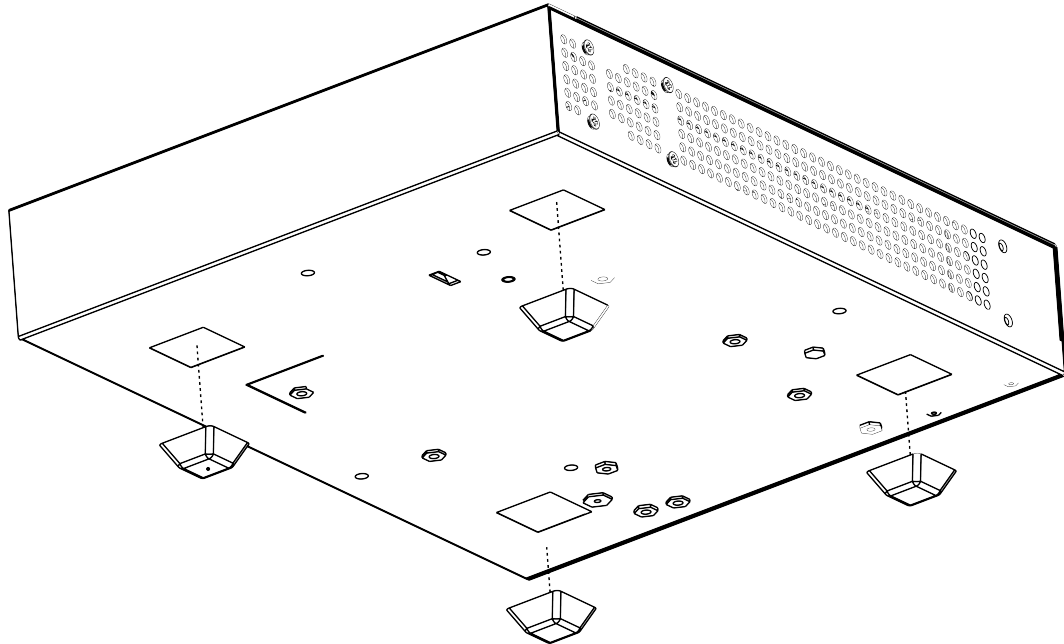

Figure 52: Table Mount: Attaching Rubber Feet
2. Apply the pads to the underside of the RPS by placing a pad at each corner, ensuring that all corners are aligned. Figure 52 shows the locations for attaching the rubber mounting feet on the switch.